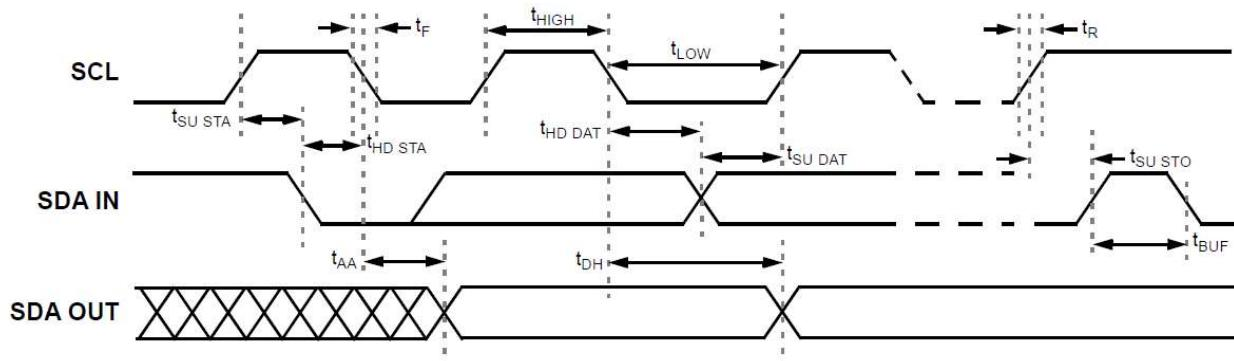

Figure2. I2C Serial General Timing
**Note 1** Timing diagram can be found in the Figure 2.**Chip address**
Shown in Figure 2 is the general timing characteristics for the I2C Serial Communications block.